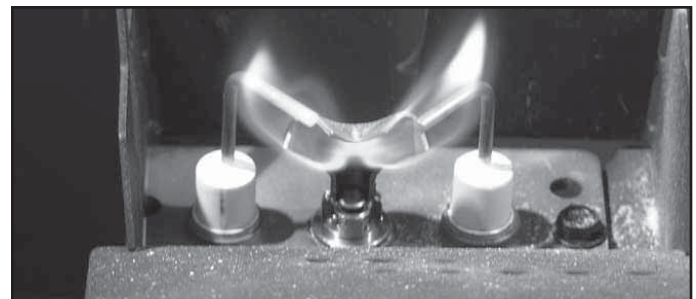

Figure 3.1 IPI Pilot Flame Patterns
- Inspect pilot flame pattern and strength. See Figure 3.1 and 3.2 for proper pilot flame pattern. Clean or replace orifice spud as necessary.